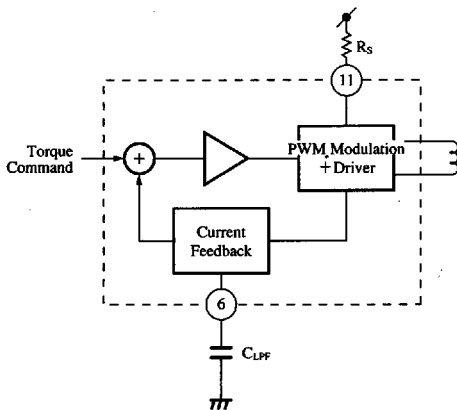

Fig.5 Current Feedback Loop
(4) Current feedback loop
- Fig.5 shows a current feedback loop incorporated to obtain a stable CLV loop against disturbances such as supply voltage change and load change.